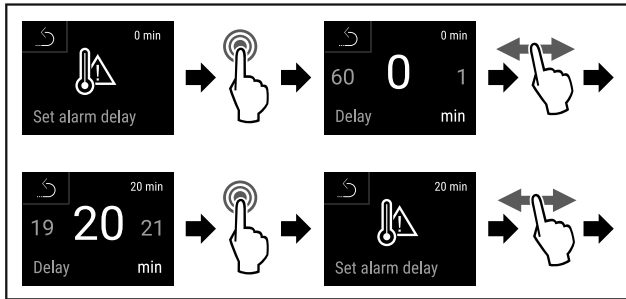

Fig. 142
- ▶ Complete steps (see Fig. 142).